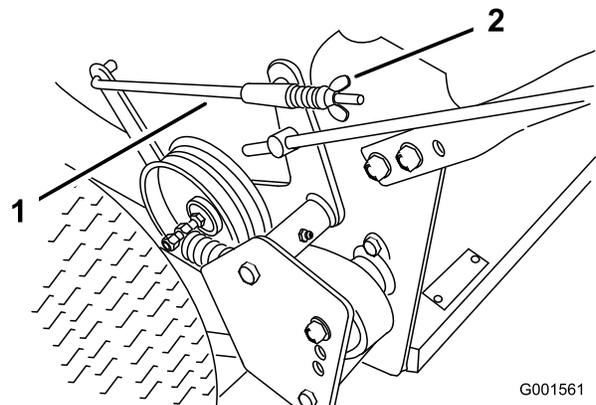

Figure 35
3. To adjust the brakes, rotate the wing nuts on the brake rods (Figure 35). Rotate the wing nuts clockwise to tighten the brakes; rotate them counterclockwise to loosen them.